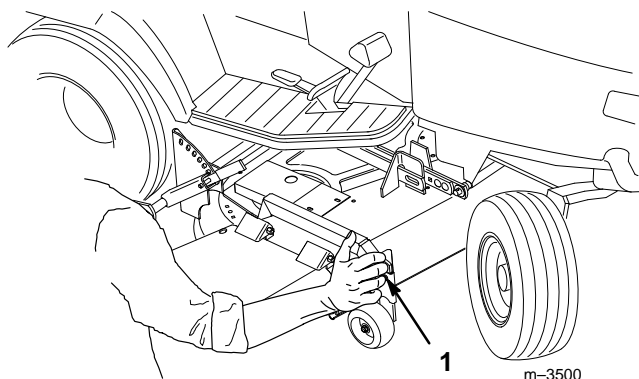

Figure 7
8. After the two J-pins are seated through the mower's mounting brackets, using the attachment lift and your hand on the right front adjustable mower wheel bracket (Fig. 7), position the mower so its attachment bar fits into the mid Attach-A-Matic™ mount.